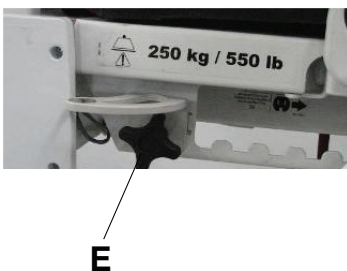

Figure 127: Attaching the screw knob
2. Attach the screw knob onto the bracket back (E) (Figure 127 on page 113).